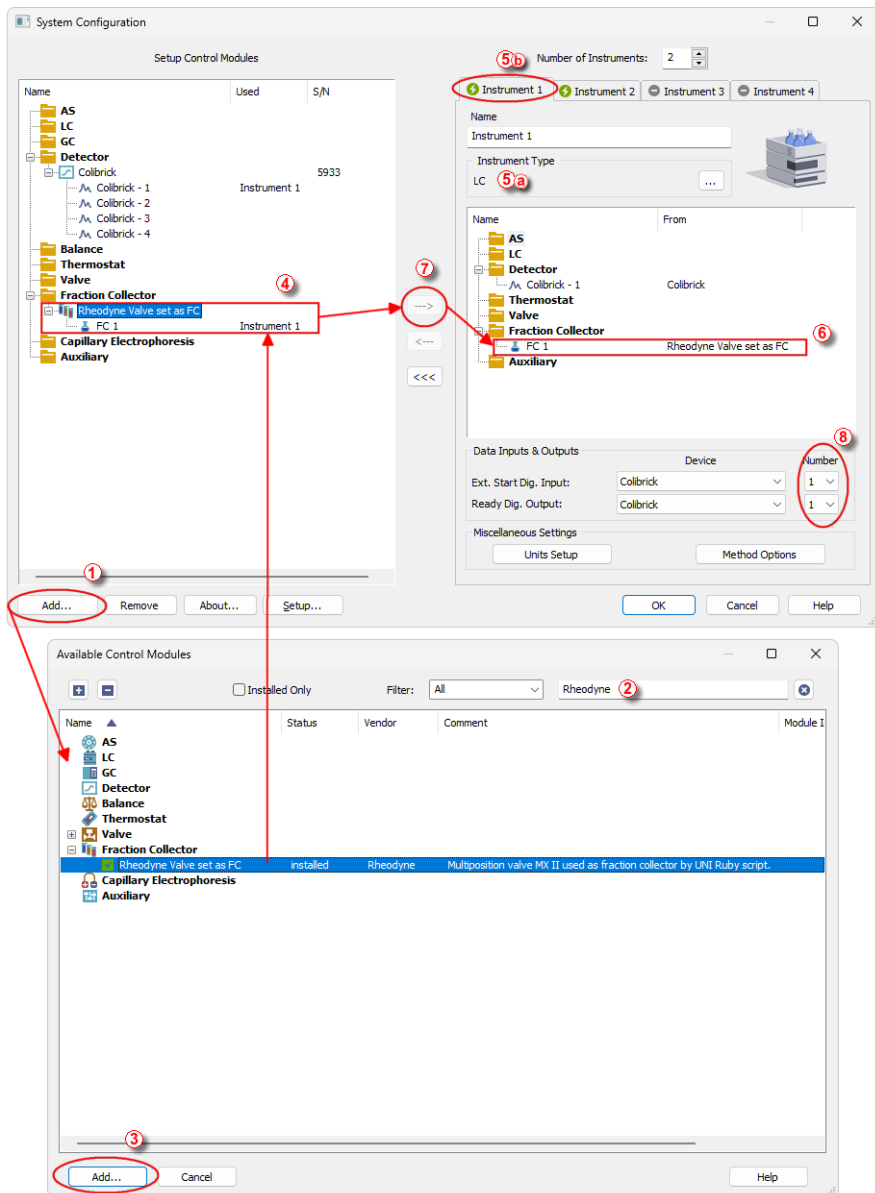

Fig. 2: How to add FC by Rheodyne Valve
- Press the **Add** button (① on Fig. 2 on pg. 4.) to invoke the *Available Control Modules* dialog.
- You can specify the search filter (②) to simplify the finding of the driver.
- Select the correct item and press the **Add** (③ on Fig. 2 on pg. 4.) button. Each device with already created UNI profile should have its own item named accordingly in the *Available Control Modules* dialog.